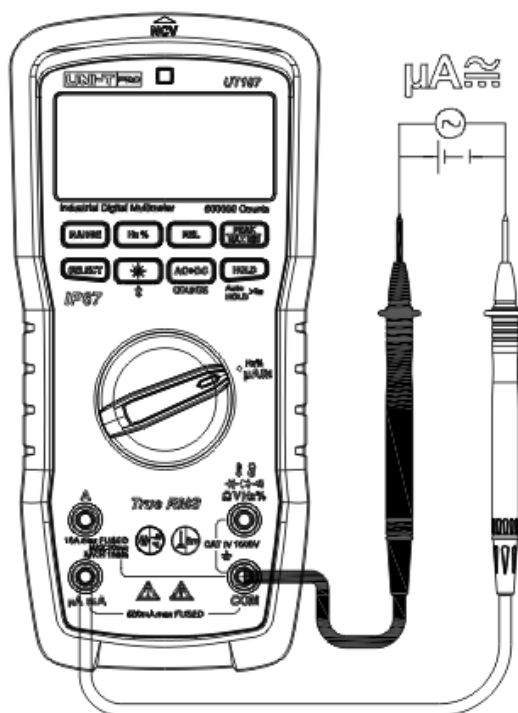

Figure 16
13. AC/DC uA measurement (Figure 16)